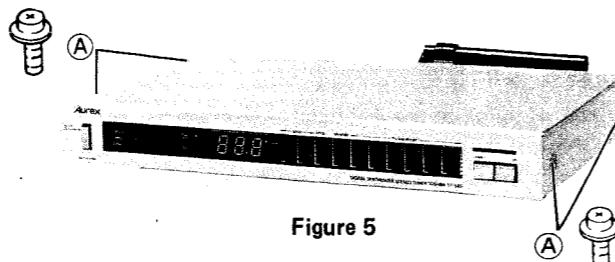

Figure 5
1. Remove four screws **(A)** ($3\phi \times 6mm$) holding the top cover and one screw **(B)** ($3\phi \times 8mm$) holding the top cover and the rear panel, then the top cover can be removed out. (See Figure 5 and 6)